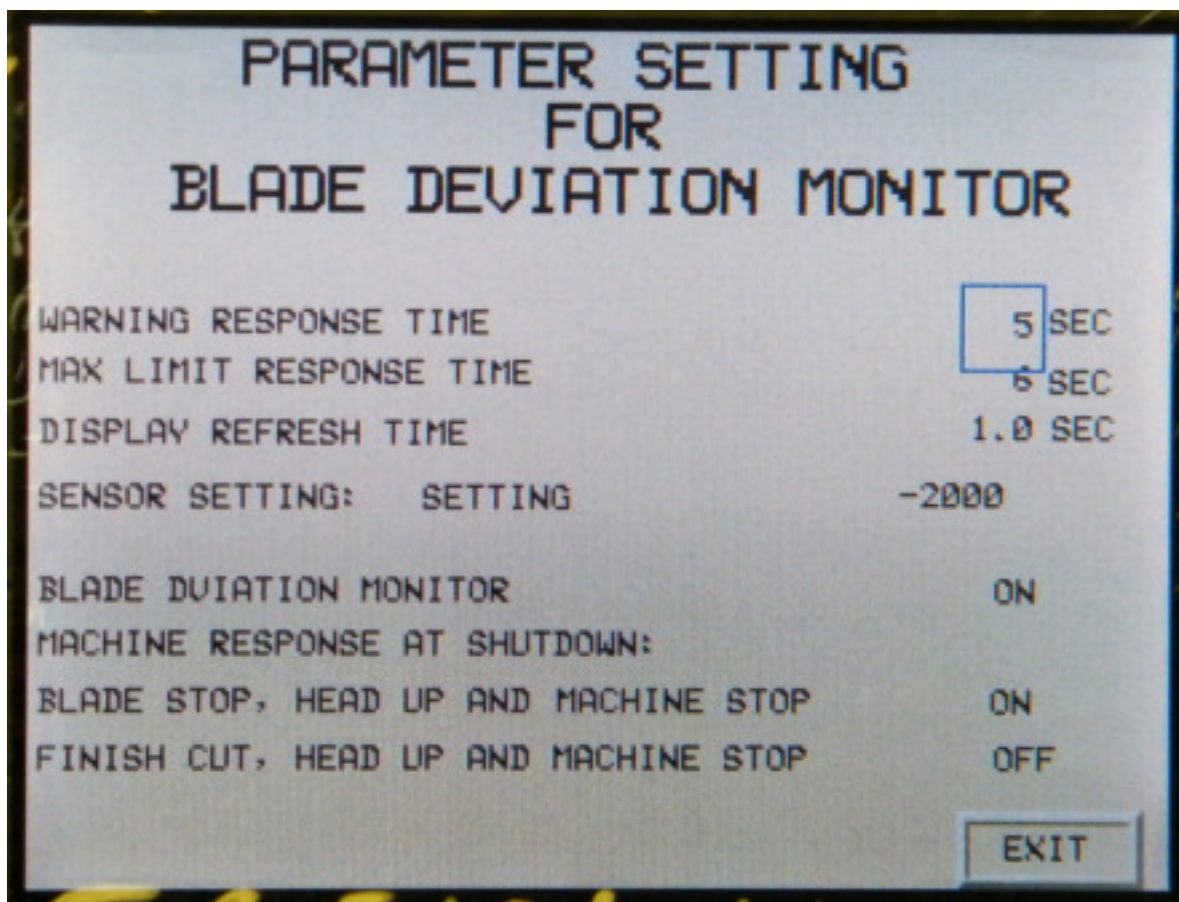

Fig.4
2. Enter the Parameter screen by pressing function key F5 labeled BLADE MONITOR PARAMETERS. The PARAMETER SETTING screen will be displayed (Fig. 4. Page 2.4.)
To access the PARAMETERS screen (Fig. 4), press BLADE MONITOR PARAMETERS (F5 function key).